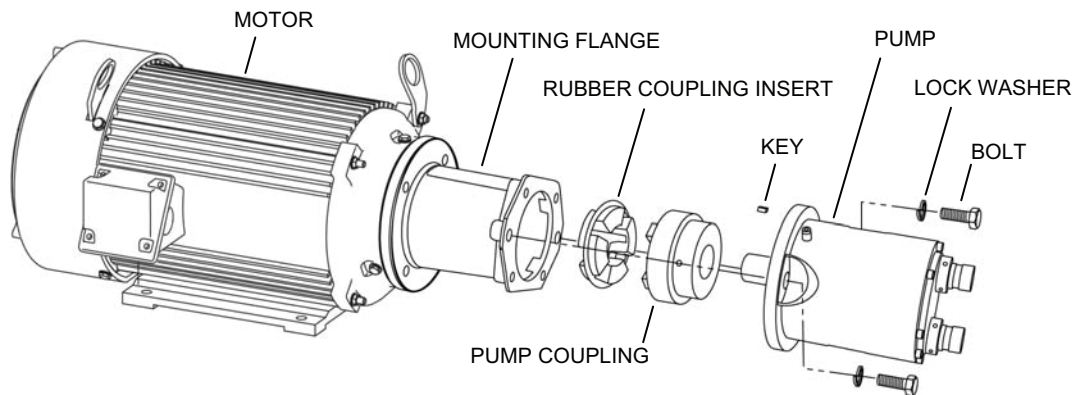

Figure 17. Removing Metal-Body High-Pressure Pump from Mounting Flange.
4. Remove the metal-body pump from the mounting flange as follows (see Figure 17):